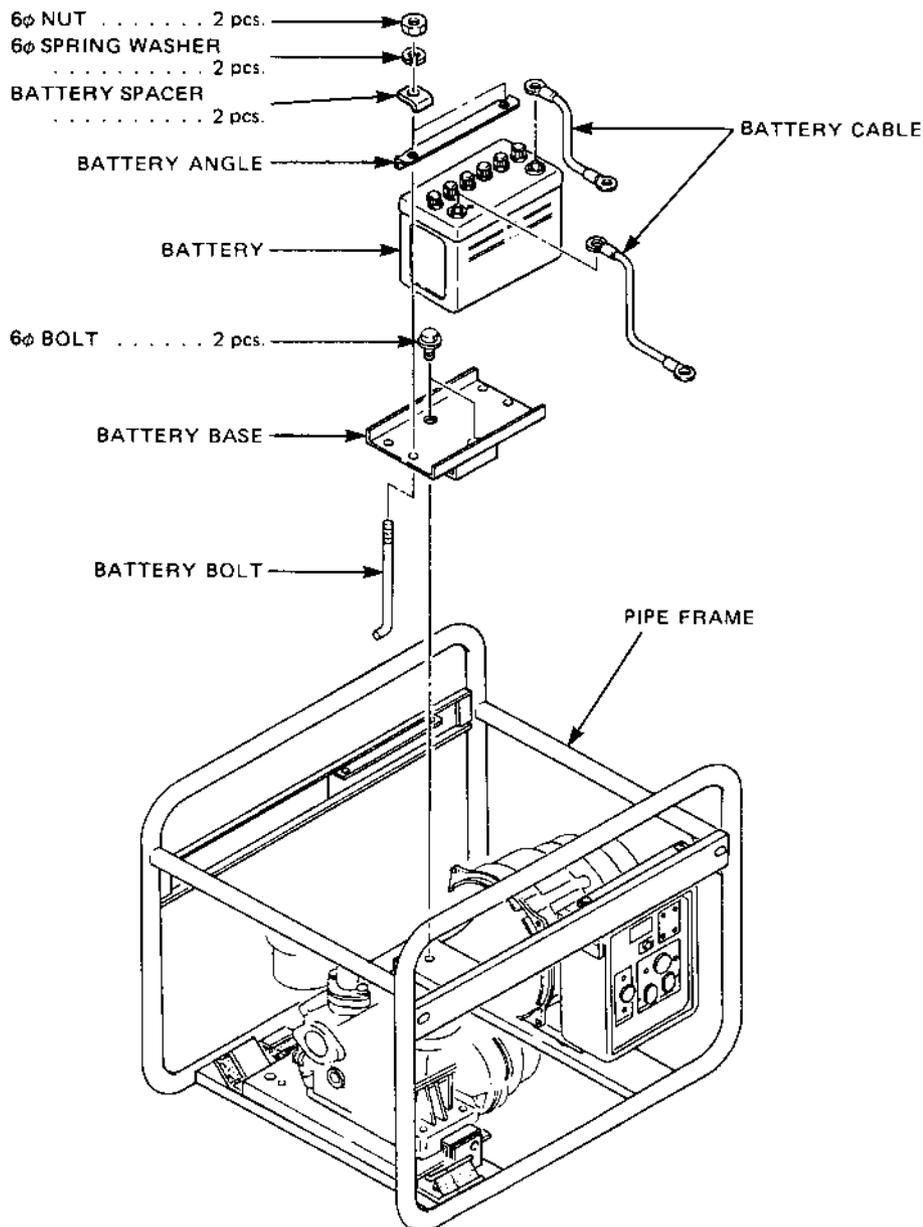

Fig. 10-45
(1) Attach the battery base to the frame.
(2) Mount the battery on the battery base, and fix it with two battery bolts and a battery angle. (See Fig. 10-45.)
(3) Attach battery cords to the battery.